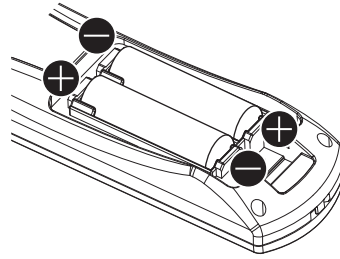

Fig. 2
- 2) Insert the batteries and close the cover (insert the **⊖** side first). (Fig. 2)